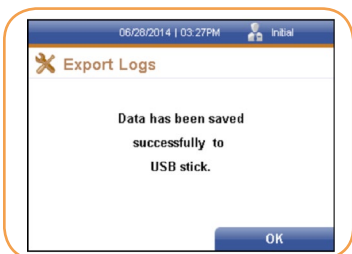

FIGURE 122
1. Press the right soft key to select Patient Results. A window confirming that the data has been successfully saved to a USB stick is displayed (Figure 122).